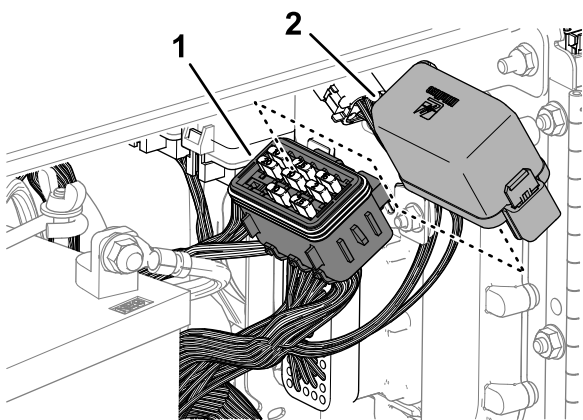

Figure 172
2. Remove the cover from the fuse block (Figure 172).